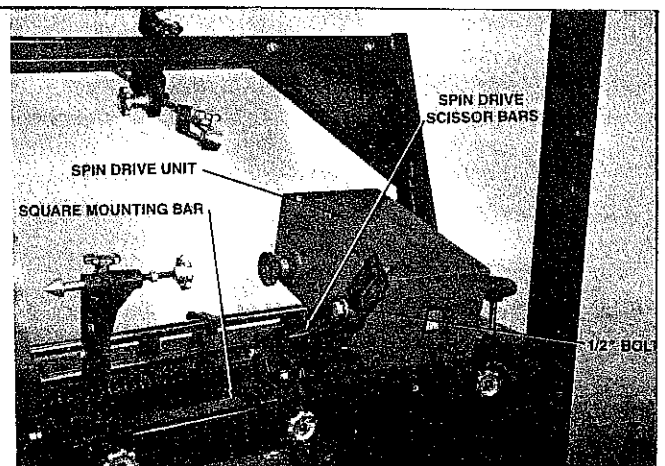

FIG. 13
Place the spin drive mounting bracket with scissor bars onto the right hand side of the square mounting bar when facing the back of the machine. (See FIG. 13) The two (2) washers on one of the scissor bars should be in the rear position. Now attach the spin drive unit to the scissor parts using the 1/2-13 x 1-1/2" long hex head cap screw, flat washer and lockwasher.